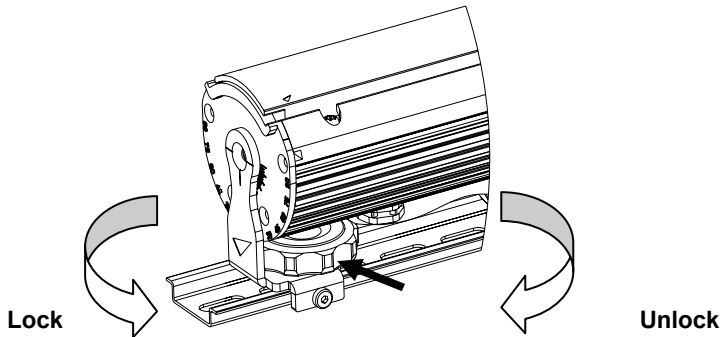

Figure 5: Releasing and tightening the tilt lock
1. See Figure 5. Turn the locking knob (arrowed) clockwise until it releases the fixture profile.